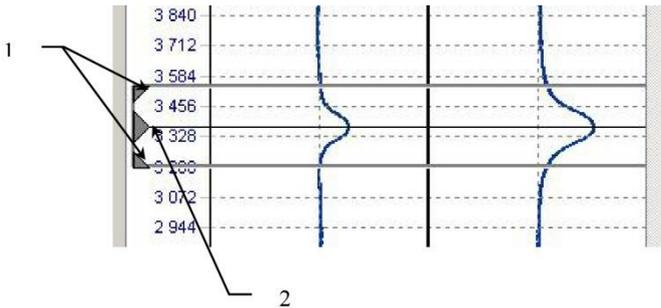

Fig. 38 Cursor
To change the cursor position, it is required to place the "mouse" cursor onto the centre of a measuring cursor (item 2, Fig. 38), and when there is a  cursor, move the measuring cursor to the required position by holding the left mouse button down.
To change the width of a measuring cursor, place the "mouse" cursor to the extreme position of the measuring cursor (item 1, Fig. 38), and when there is a cursor, set the required width of a measuring cursor by holding the left mouse button down.